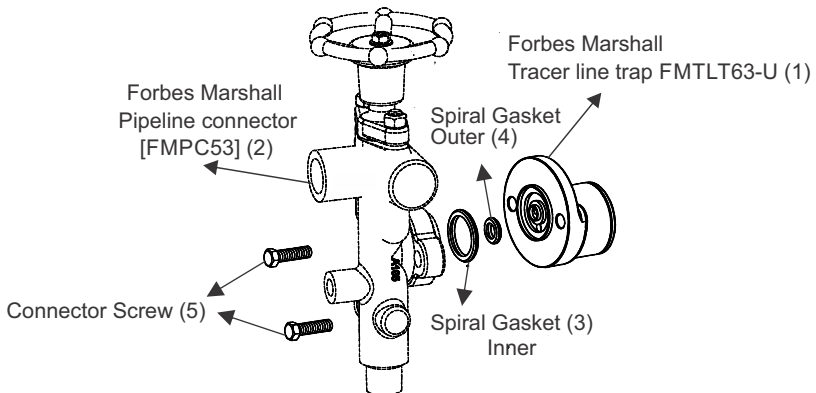

Fig. 2: Typical Installation of Forbes Marshall Tracer Line Trap on Forbes Marshall Pipeline connector [FMPC53]
5.1. Installation of Forbes Marshall Universal Tracer Line Trap : [Refer fig. 2]
6.1. Flushing of lines: [Refer figure 2]
6.2. Commissioning: [Refer figure 2]
7.3. Procedure to repair or replace thermopod and seat assembly: (Refer Figure 2)
7.4. Procedure to clean or replace the strainer screen: (Refer Figure 2)